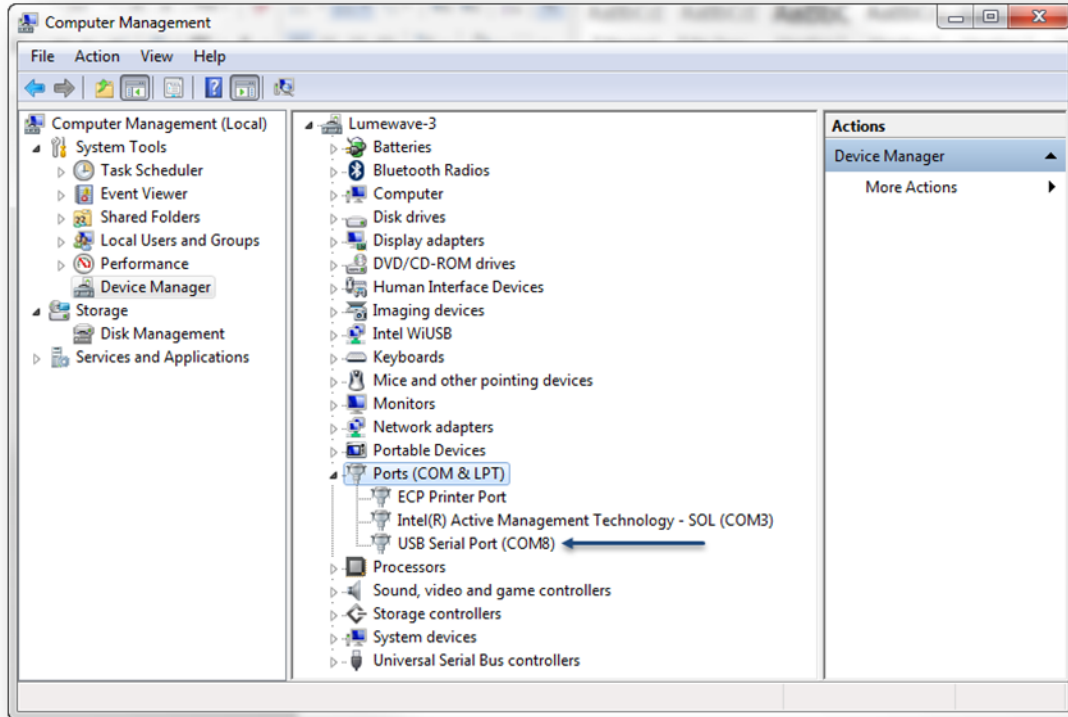

Figure 15. Computer Management Screen
6. In the middle column, double-click on Ports (COM&LPT) to display all available ports. This screen is shown in Figure 15.